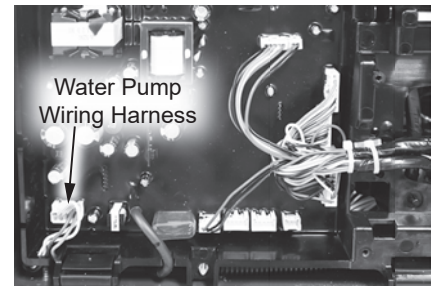

Figure 177 - Water pump wiring harness location
- 14 Locate the water pump wiring harness on the control board panel as shown in Figure 177. Disconnect and route the wiring out of the way for ease of removing the water pump.
- 30 Place the water pump into the water heater cabinet, routing the wiring harness cable behind the condensate collector and under the control board panel as shown in Figure 177. Use caution not
35 Lift the control board panel up and reconnect the water pump wiring harness previously disconnected in **Step 14**. Slide the wiring through the slot in the circuit board panel as shown in Figure 177. Lower control board panel.